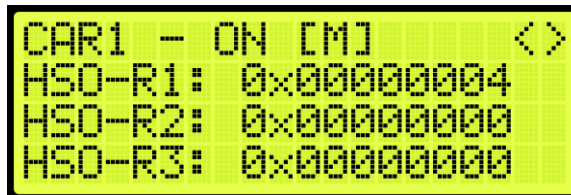

Figure 271: Rear Hall Security Map Status
10. From the Rear Hall Security Map Status (See Figure 271), press the right button.
11. From the Rear Hall Security Map Status (See Figure 271), press the right button.